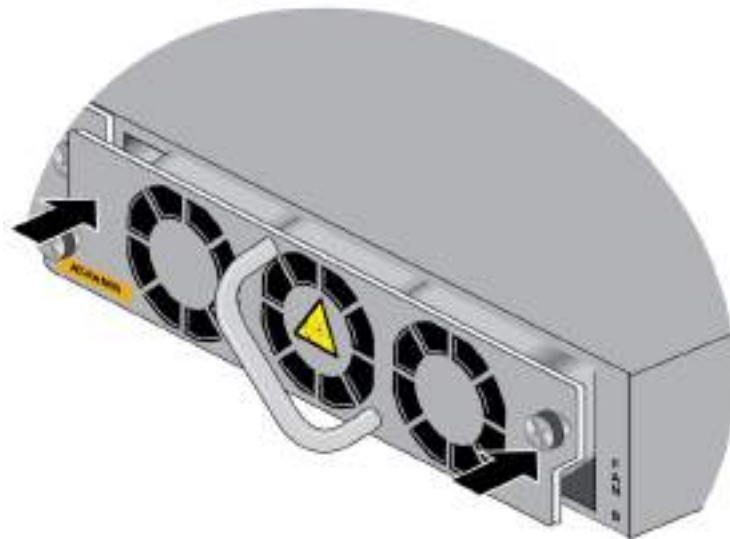

Figure 143. Seating the FAN05 Module on the Internal Connector
3. When you feel the module make contact with the internal connector, gently press on both sides to seat the module on the connector. Refer to Figure 143.